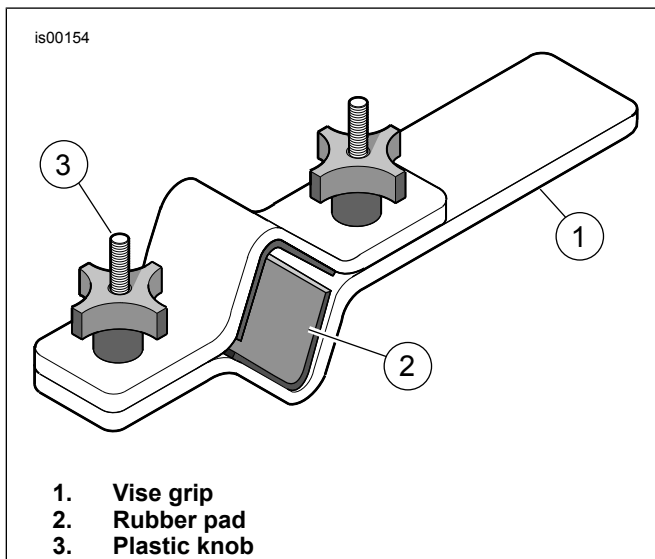
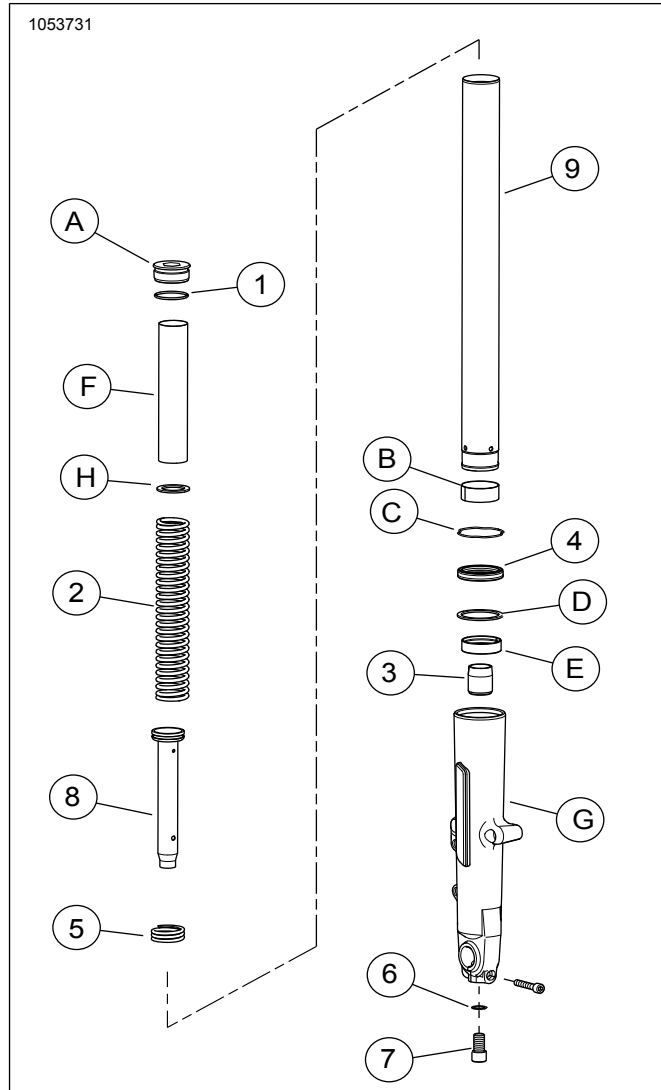

Figure 3. Fork Tube Holder (HD-41177)
Figure 6. Service Parts: Touring Cartridge Front Fork
1. See Figure 3. Install fork in Fork Tube Holder (HD-41177) as follows:
- a. Clamp end of tool (1) in vise in a horizontal position.
- b. See Figure 6. With the fork bolt (A) upward, clamp fork tube (9), between rubber pads on inboard side of tool. Tighten knobs until fork tube is securely held.
1. See Figure 6. Make sure that piston ring is installed on the damper tube with the cut-outs down. Place **new** rebound spring (5) on **new** damper tube from kit (8). Insert damper tube into **new** fork tube (9).
2. Insert **new** spring (2) and spring collar (F) into fork tube, with dense section of coils toward damper tube. Push bottom of damper tube through the opening at the bottom end of the fork tube. Place **new** oil lock (3) over end of damper tube.
3. Apply Loctite 565 Thread Sealant to **new** screw (7). Position fork tube and damper tube in fork slider (G). Hold the assembly in place by exerting pressure on the spring. Install screw (7) with **new** copper washer (6) from kit.
- c. See Figure 6. Slide the retaining clip (C) down the fork tube until it contacts the fork oil seal. Install retaining clip in the fork slider groove. Do not expand or stretch retaining clip to install on fork tube or clip may be damaged.
- d. See Figure 6. Insert rod into top of fork tube until metal ring rests flat on top of fork tube.